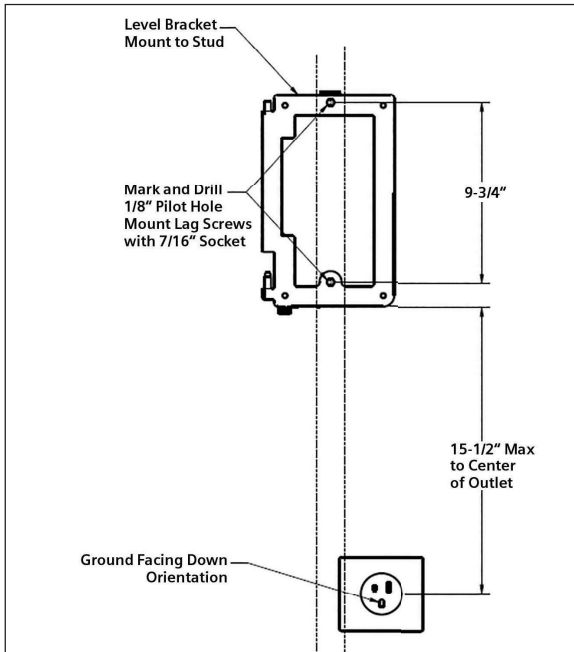

Figure 1. Align the mounting bracket and screw into the stud
1. A qualified electrician should install the outlet with the ground facing down (only the 40 A charger is available with a plug; the 48 A charger **MUST** be hardwired). See Section 2.2, Figure 1, for outlet positioning.